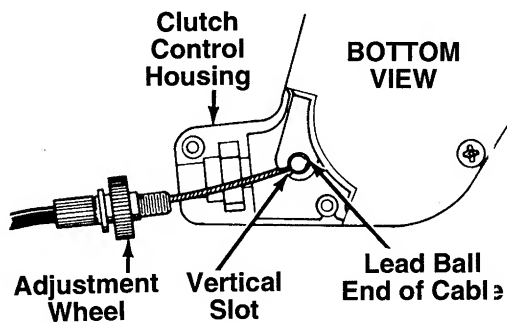

FIGURE 5.
1. Place the lead ball end of the cable into the fitting provided in the end of the clutch control lever. Slip the braided wire into the vertical slot as shown in figure 5.
3. Make certain the adjustment wheel is threaded onto the cable as far as possible as shown in figure 5. Place the adjustment wheel into the clutch control housing.